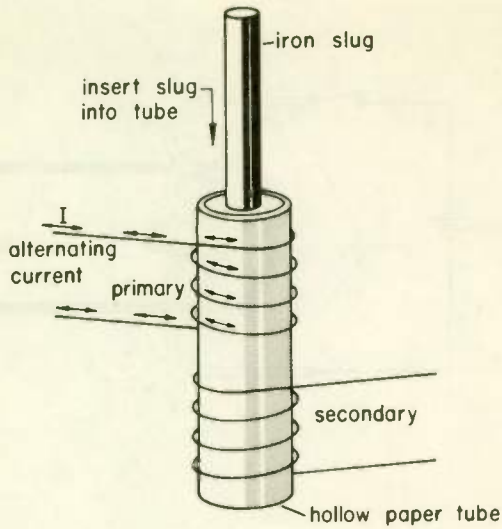

Fig. 26
4. Figure 26 shows two coils wound on a hollow paper tube. The primary coil is connected to an alternating-current source. A continuous alternating voltage (a) (is) (is not) induced in the secondary. Suppose the iron bar, or slug, shown in the figure, is gradually lowered down into the tube. As the slug gets farther and farther down into the tube, the voltage induced in the secondary will (b) (remain constant) (gradually increase) (gradually decrease).